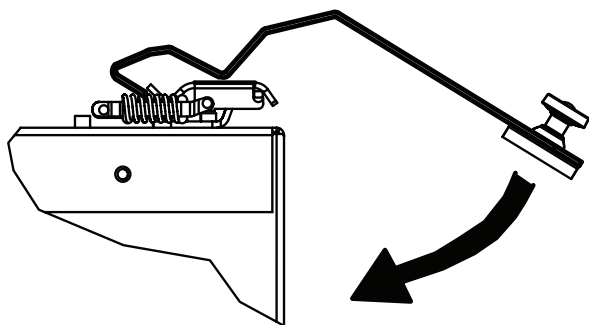

Figure 20 - Latch Opener
2. Hook opener over latch as shown in Figure 20. Swing the bottom of the opener down toward the door. You will not need to pull down.